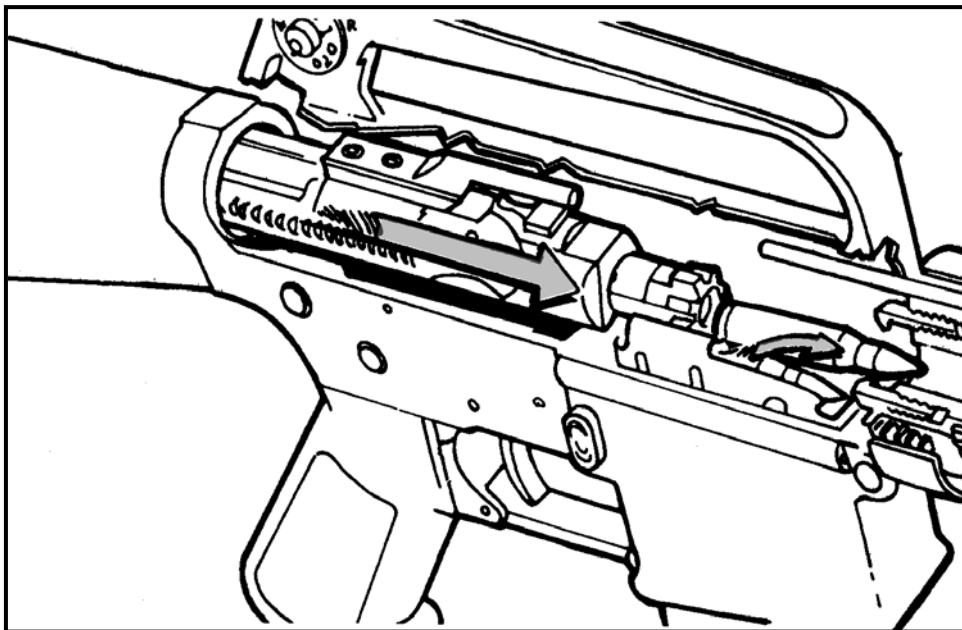

Figure 4-3. Feeding.
a. **Feeding** (Figure 4-3, page 4-4). As the bolt carrier group moves rearward, it engages the buffer assembly and compresses the action spring into the lower receiver extension. When the bolt carrier group clears the top of the magazine, the expansion of the magazine spring forces the follower and a new round up into the path of the forward movement of the bolt. The expansion of the action spring sends the buffer assembly and bolt carrier group forward with enough force to strip a new round from the magazine.